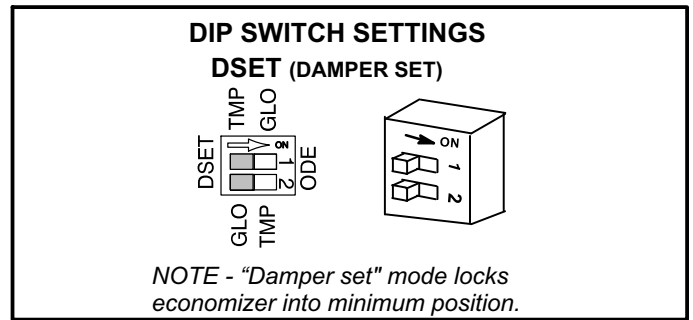

FIGURE 36
- 1- Set economizer DIP switch to "DSET" position as shown in figure 36.